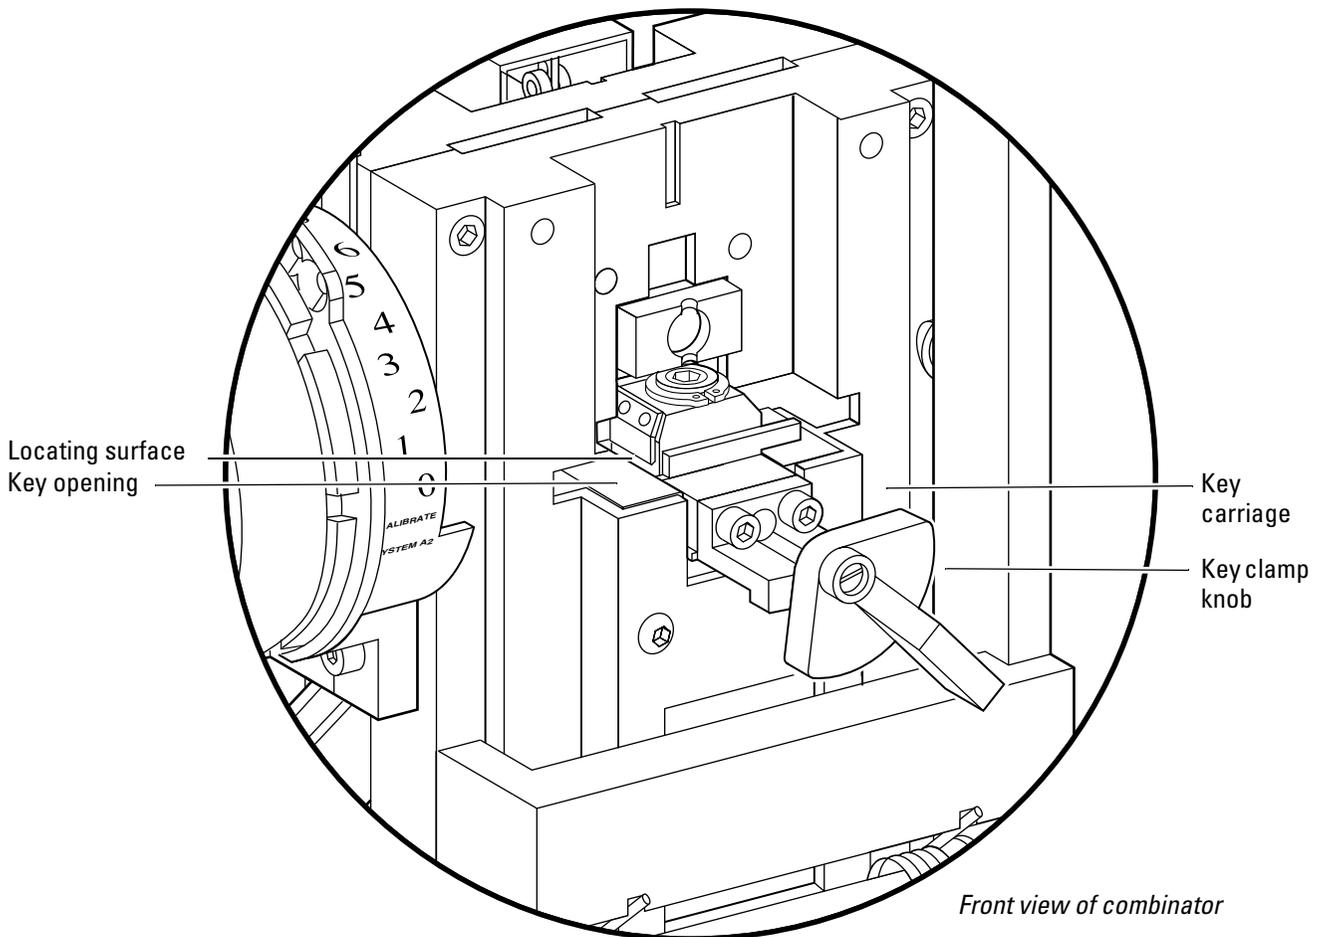

Figure 3.2 Loading a key
2. Turn the key clamp knob counterclockwise to open the key clamp spring (for left-handed combiners, turn the key clamp knob clockwise). See Figure 3.2.